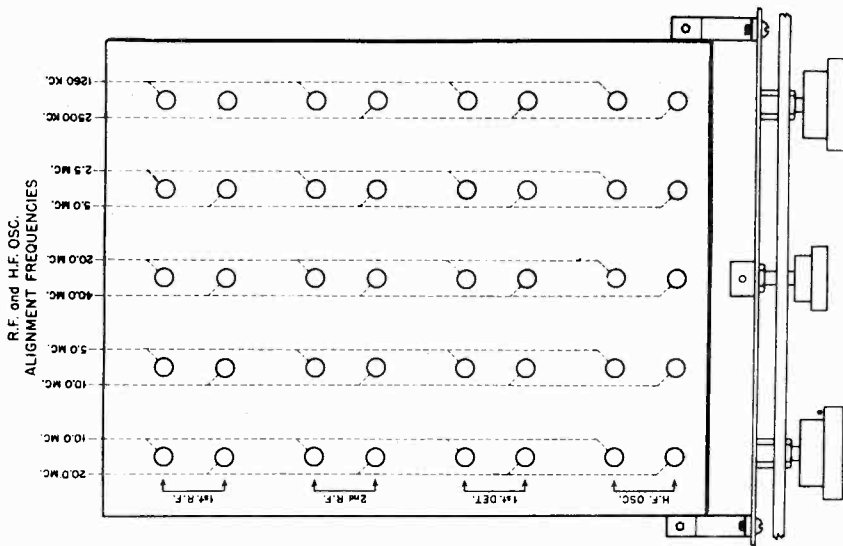

Fig. 13. ALIGNMENT CHART. Shows location of screwdriver adjustments and corresponding test frequencies.
a. *Signal Generator* - This should be an accurately calibrated instrument producing amplitude-modulated radio-frequency signals. In addition to 465 kc (the I.F.), the frequency range required of the signal generator depends on the tuning range of the receiver to be aligned. The H-F alignment frequencies required for the Series 400-SX Super-Pro are shown in Fig. 13. The second harmonic can generally be used when the fundamental frequency is not available. For example: a signal generator covering all frequencies from 465 kc to 20 mc could be used to check the highest frequency band by using the second harmonic of 20 mc to provide the 40 mc called for in Fig. 13. The signal generator should have an output of approximately 100 microvolts and an output impedance of approximately 100 ohms for best results when aligning the R-F and H-F-Oscillator circuits. For I-F alignment these values are not critical. The frequency calibration of the signal generator is extremely important if the Receiver dial calibration is to be correct.
(1) To correct dial calibration, refer to alignment chart (Fig. 13) for location of H-F oscillator adjustments as well as signal frequencies at which settings should be made. If the 2.5-5.0 mc band is to be corrected, the signal generator may be set accurately to 2.5 mc and its second harmonic (if strong enough) used for the 5.0 mc end of the band. The output of the signal generator should be unmodulated and SIGNAL-MOD-CW switch on Receiver turned to CW. Set BEAT OSCILLATOR at 0, AUDIO GAIN at 10, AVC-MANUAL on MANUAL, BAND WIDTH at 16. Disconnect output meter and use earphones or loudspeaker to make necessary adjustments by "zero beat" method. Connect signal generator to antenna terminals for this test.
(2) Tune in second harmonic at 5.0 mc end of dial to zero beat. Notice approximate dial error. Turn main dial, slightly toward 5.0 mc calibration line until beat note rises to a high pitch. Do not turn dial far enough to
(2) Starting with 2.5-5.0 mc band, set main dial at 5.0 mc (BAND SPREAD at 100) and adjust frequency of signal generator for peak deflection of output meter. Then check setting of trimmer marked 1st DET 5.0 mc (Fig. 13). Repeat this procedure on trimmers designated as 2nd RF and 1st RF in same row. If readjustments on one of these settings greatly increases output meter reading, alter SENSITIVITY slightly to reduce reading to half-scale. After each adjustment check tuning of Receiver to make sure test signal is still accurately tuned. BAND SPREAD may be used as a vernier for this purpose. CAUTION: THIS TUNING CHECK IS EXTREMELY IMPORTANT AT HIGH END OF 10-20 MC AND 20-40 MC BANDS WHERE THERE IS SOME SLIGHT INTERACTION BETWEEN 1ST DET AND H-F OSC CIRCUITS. After checking the three trimmers at high end of this band, turn main dial to 2.5 mc and retune signal generator to suit. Then check the three inductance adjuster settings marked 2.5 mc (Fig. 13) in the same row. Since adjustments at one end of a band also affect the other end of the band (as described under H-F OSC alignment), repeat above procedure until no further improvement can be secured. The number of repetitions necessary depends on how much mistuning existed initially. Other bands may be checked in the same manner.
(3) For best possible efficiency with a particular antenna arrangement, the 1st RF circuits may be adjusted with the antenna connected. This can be done by loosely coupling output of signal generator to antenna
raise beat so high it cannot be heard. With alignment screwdriver adjust trimmer capacitor marked HF OSC 5.0 mc (Fig. 13) until beat is again zero. Turn main dial still farther toward 5.0 mc line and make a further adjustment of trimmer capacitor to return to zero beat. Repeat this process as often as necessary to bring dial to exactly 5.0 mc. (The main dial could be set at once on exactly 5.0 mc and trimmer turned enough at one time to produce zero beat, but the step-by-step method is recommended.) Now tune in 2.5 mc fundamental at low-frequency end of main dial and correct the calibration step-by-step as before, using inductance trimming adjuster HF OSC 2.5 mc (Fig. 13). When second harmonic is again tuned in at other end of dial, it will be found that inductance adjustment at 2.5 mc has changed correction previously made at 5.0 mc. This is normal. Go back and forth several times from 2.5 to 5.0 mc in order to bring both ends of dial scale into exact agreement with the signal frequency. CAUTION: DURING THIS ADJUSTMENT BE VERY CAREFUL TO ADJUST THE SENSITIVITY CONTROL TO AVOID OVERLOADING.